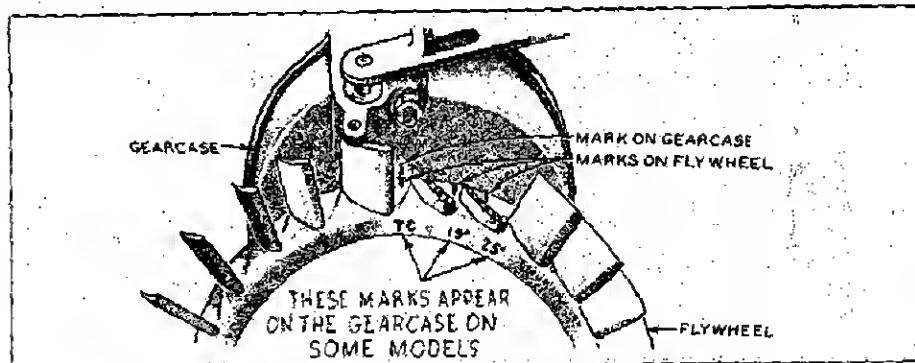

FIG. 40 - IGNITION TIMING MARKS
2. Crank the engine over slowly by hand in the direction of crankshaft rotation until the "TC" mark on the flywheel and the mark on the gear cover are exactly in line. See Figure 40.